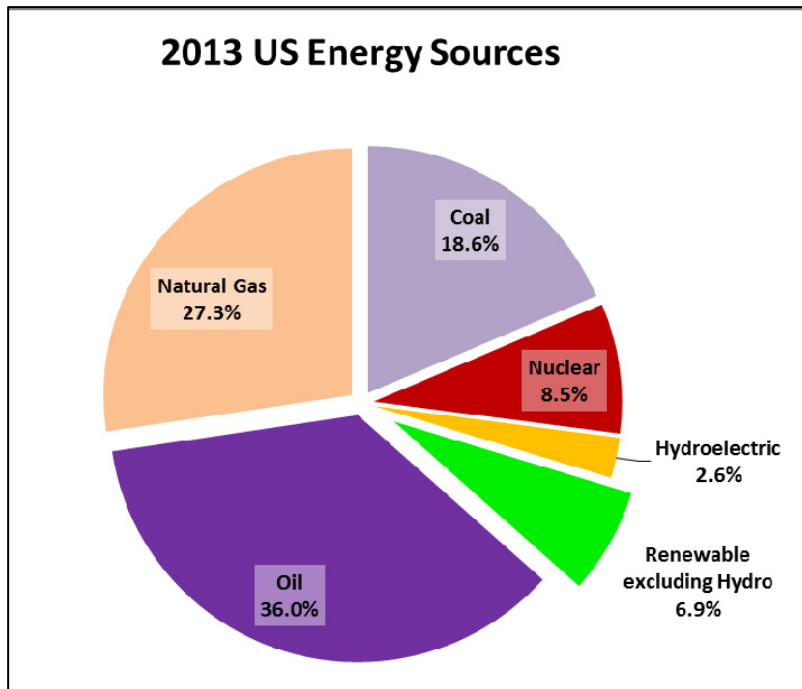

Figure 1
**Figure 1** shows DOE statistics of energy sources in the United States in 2013. Renewable energy contributed 9.5%. Considering the publicized growth of wind, solar, and biomass energy, it is surprising to learn that it is still very small piece of the pie. Renewable sources have increased significantly since 2005, however they still add up to less than 10% of total energy sources. *Why?* Simply because total energy use has also been growing.